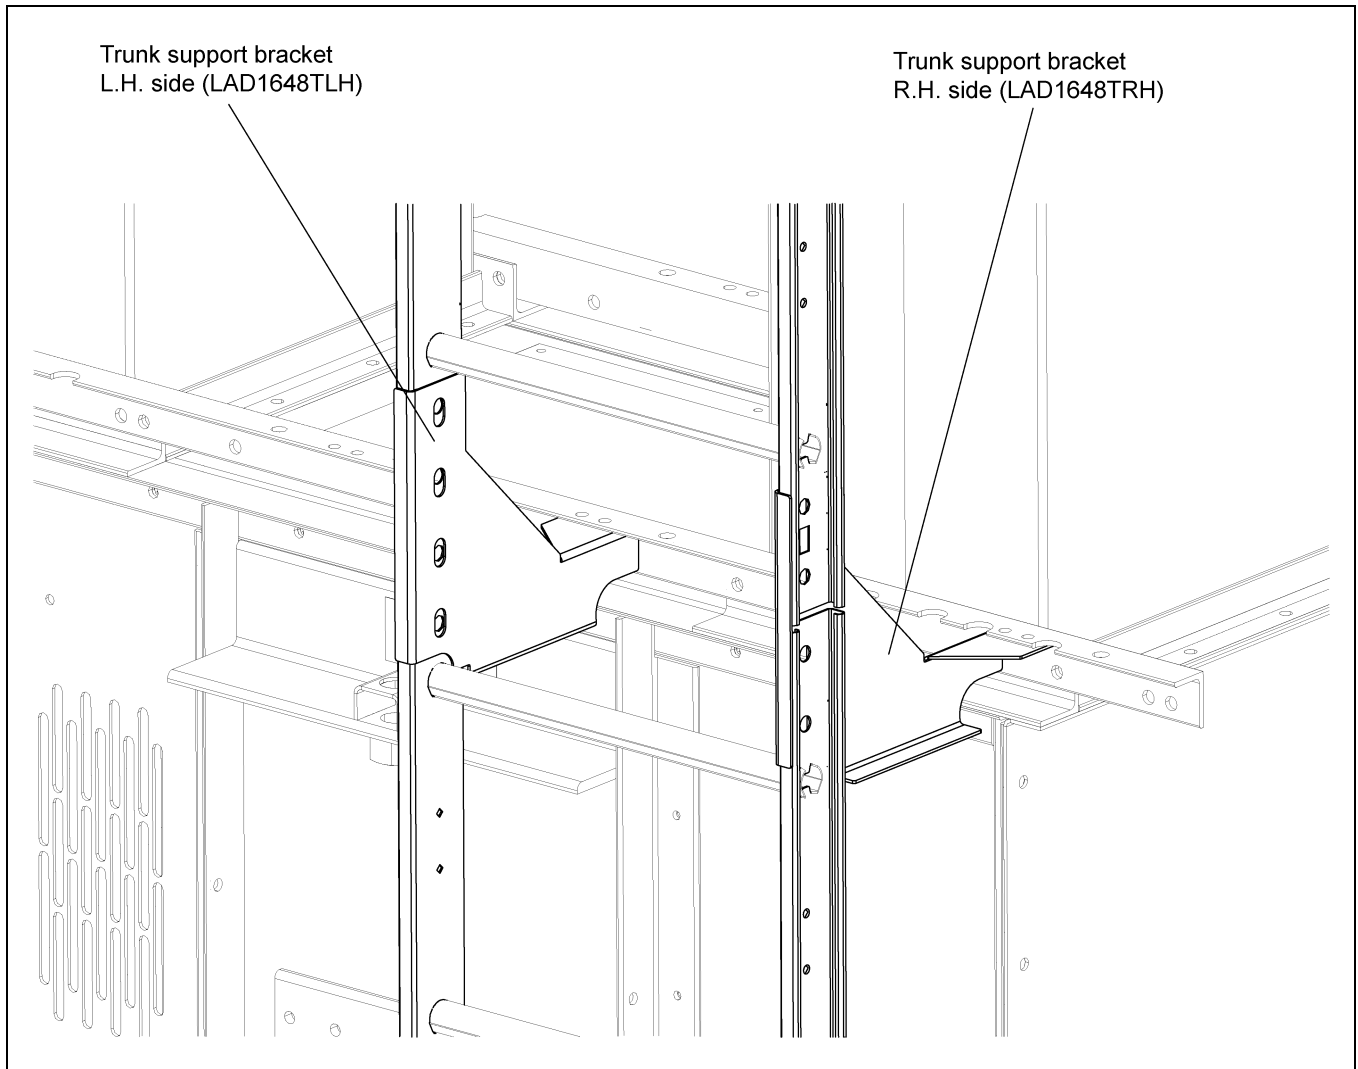

Figure 4S
3. Attach the next ladder section to the ladder brackets using 1/2" x 3/4" hex bolts through the top set of holes. (See Figure 4S.)